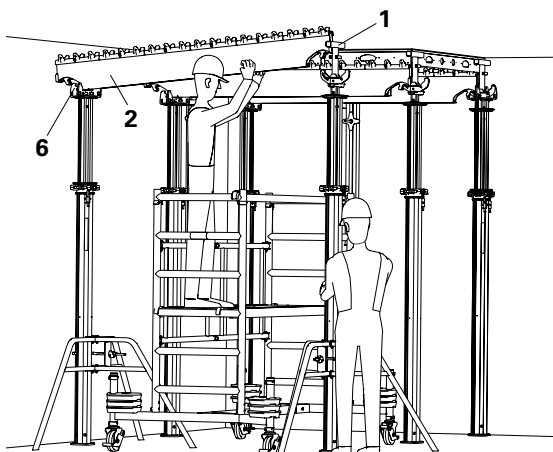

Fig. A4.09
1. Position prop with Prophead SSK (6). Spacing 1.50 m.
3. Position prop with Drophead SFK (1). Spacing 2.275 m.
4. Insert Main Beam SLT 225 (2) into the beam support of the Prophead and Drophead. (Fig. A4.09)